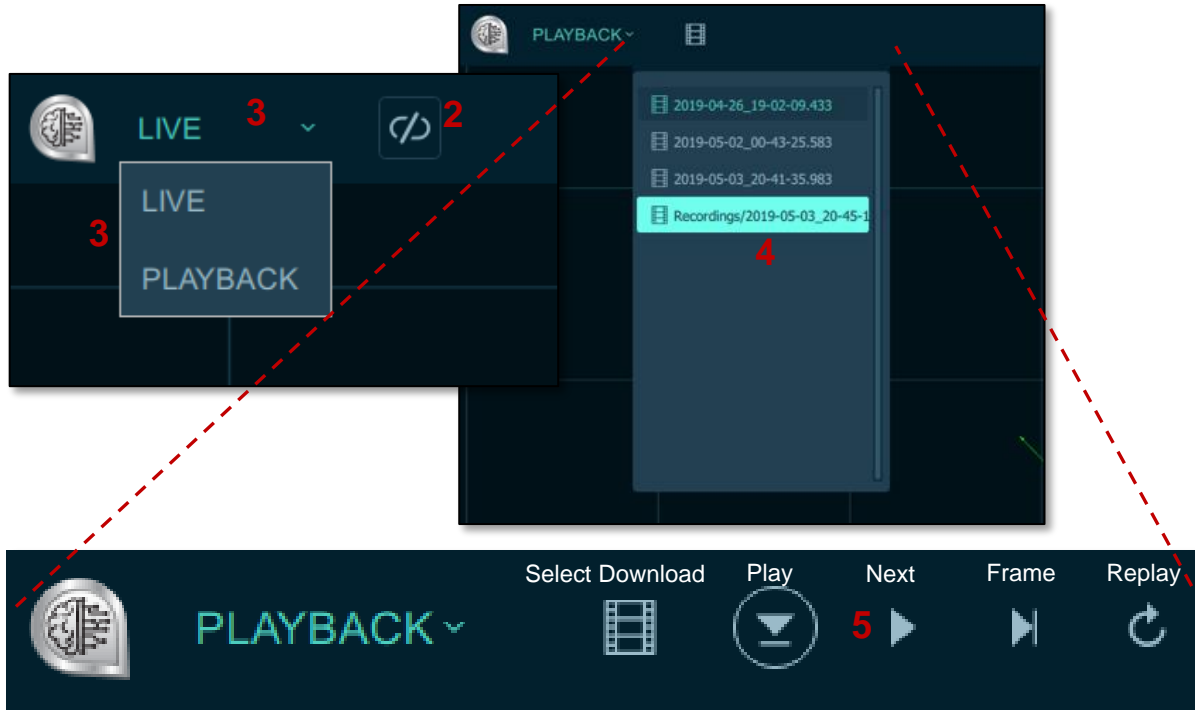

Figure 94. Top Navigation Bar: Selecting and Playing a Recorded Dataset
3. Click the **Select Recording**  button that appears, then select a recording from the menu. See Figure 94. Top Navigation Bar: Selecting and Playing a Recorded Dataset.